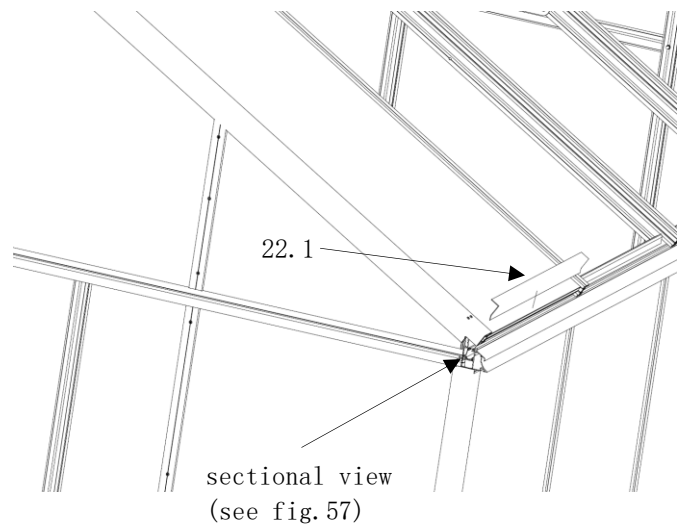

fig. 56
- the ISO roof glass pane (item G/S/D) must be pushed upwards into the ridge profile so far that the pane can be secured at the bottom in the eaves profile groove (item 6.5) with an end stop bar (item 22.1)! (fig. 56)